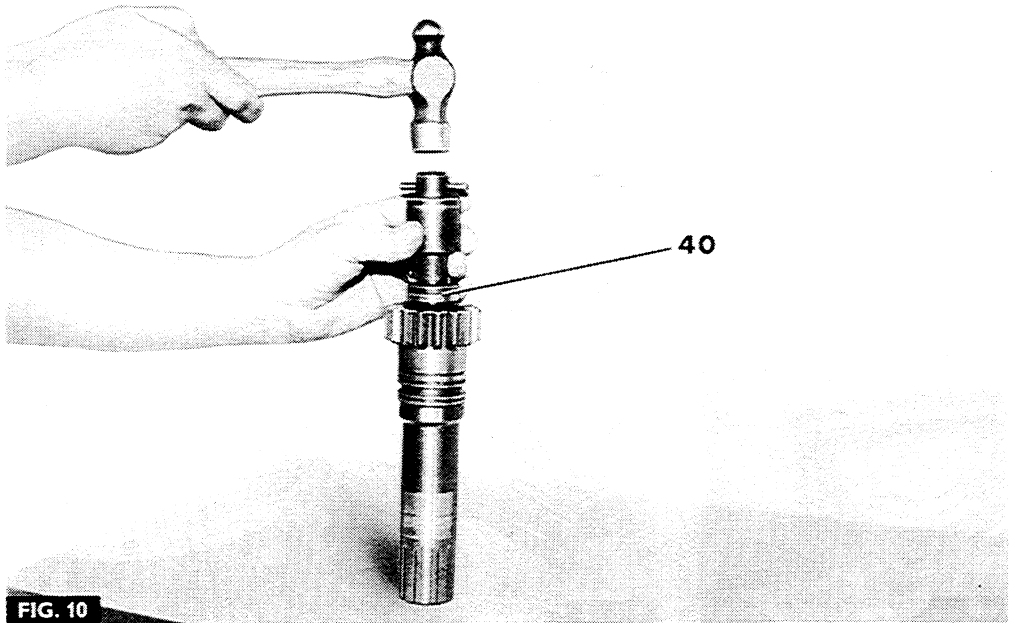

FIG. 10
- Fig 10. Fit the new inner oil seal (40) to special tool MF 256A, then drive the seal fully into place.